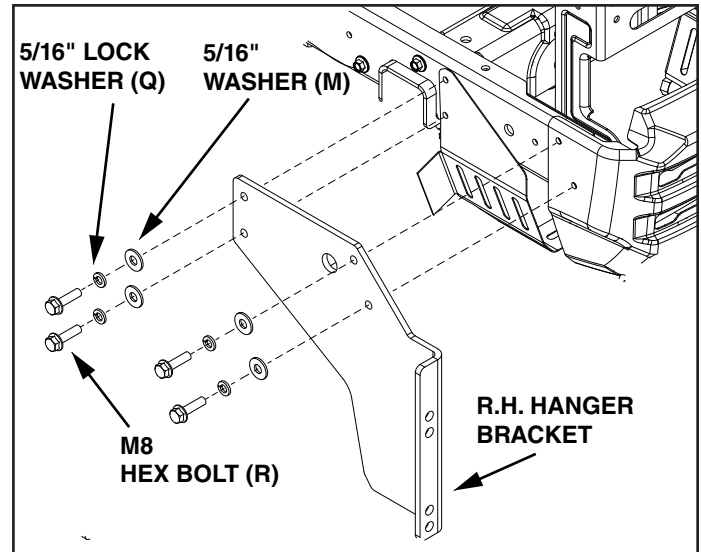

FIGURE 2
STEP 2: Attach the R.H. hanger bracket (2) to the front four holes in the right side of the tractor frame using an M8 hex bolt (R), 5/16" lock washer (Q), and 5/16" washer (M) as shown in figure 2. Repeat step for the L.H. hanger bracket.
10. To remove the brackets assembled to the tractor frame (hanger brackets and hanger bracket assembly) refer to figures 2 and 3 on page 4.